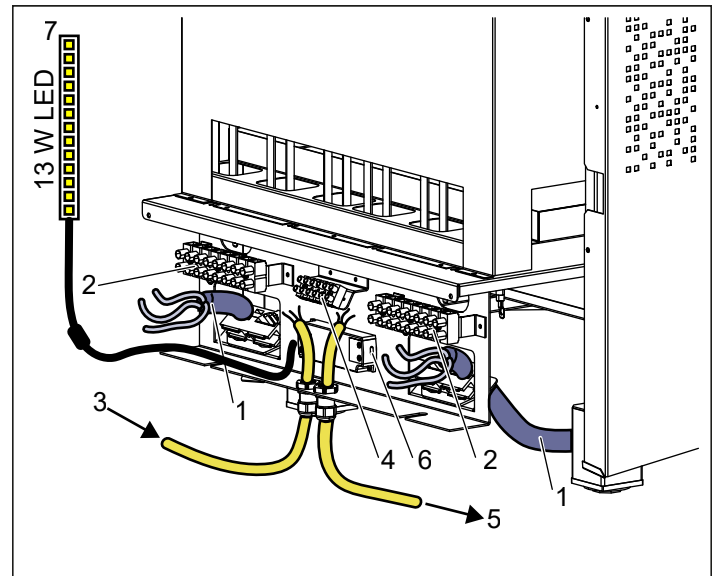

Figure 12: Electrical Compartment
8. If installing double heaters, run the lighting cable from one heater to the other, see figure 12.